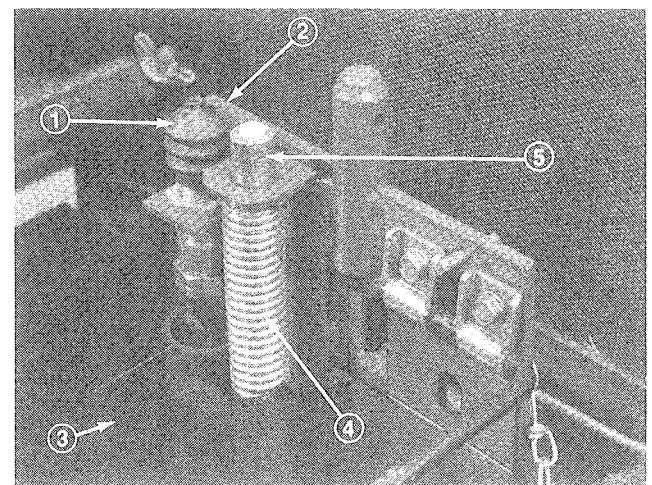

Figure 3
1. (Model 30739 only) Remove boot from button end of seat switch (Fig. 3). Pull connectors off switch terminals.
3. (Model 30739 only) Remove flange screw, truss head screw, (2) locknuts and spacer securing sealing plate, over fuel tank, to frame (Fig. 3). Remove sealing plate.
4. Insert pin part way into hole in top of seat support bracket on machine (Fig. 3).
8. (Model 30739) Reinstall sealing plate to frame, above fuel tank with flange screw, truss head screw, (2) locknuts and spacer previously removed.